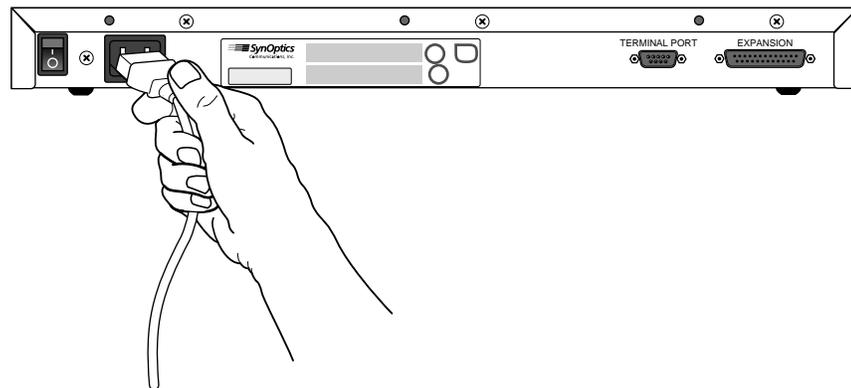

Figure 2-4. Connecting Power Cord
3. Connect the power cord, first to the power entry receptacle on the back of the concentrator (see Figure 2-4), and then to the wall.